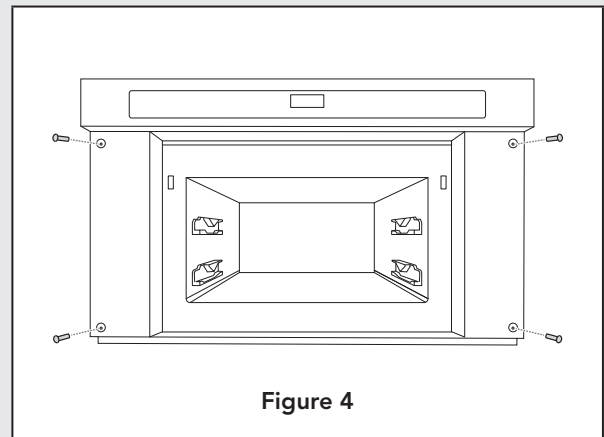

Figure 4
4. Open the door. Using the two holes on each mounting flange, pre-drill the cabinet using a 1/16" bit. See Figure 4.
5. Mount the oven using the four screws provided. See Figure 4.